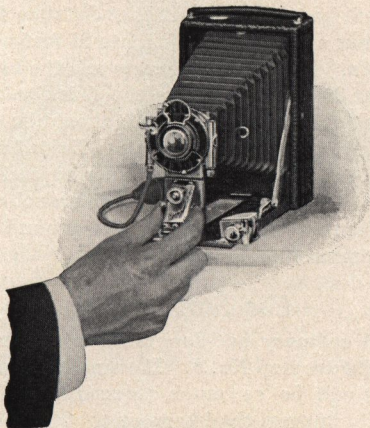

FIG. 2
3. Grasp the springs at bottom of standard, and pull out front to the metal stop on the bed. (Fig. 2.) Then pull out knob of pinion at the base of the standard and rack out front until the pointer is over the figure on the index plate corresponding